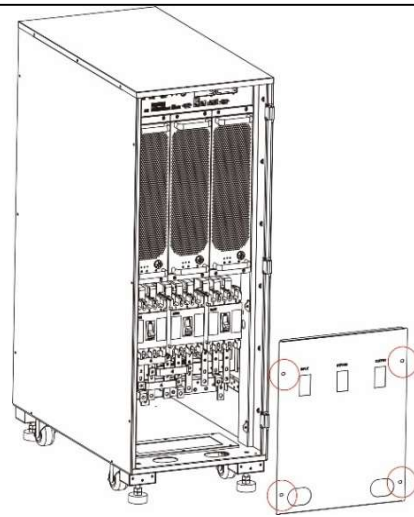

Fig. 3-7 Remove the cover of distribution unit (80/100/120/160/200kVA)
Step 7: turn the wrench counterclockwise to raise the four support feet at the bottom of UPS until all the four wheels at the bottom of the case are evenly landed and the support feet are completely suspended. See Fig. 3-7.
- Step 5: open the front door and remove the cover panel of the distribution unit, as shown in Fig. 3-6 and Fig. 3-7.
Step 1: remove the cover plate of distribution unit (80kVA/100kVA/120kVA/160kVA/200kVA) need to open the front door first), as shown in Fig. 3-6 and Fig. 3-7.